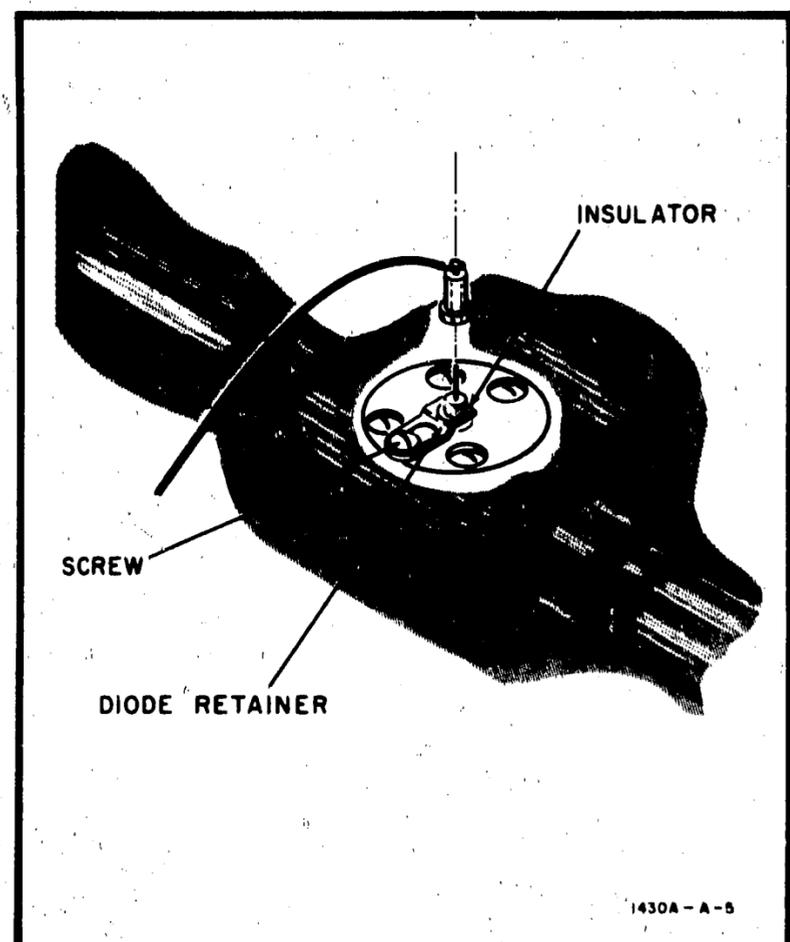

Figure 8-2. Diode Removal
- a. Loosen the screw and slide the diode retainer away from the insulator as shown in Figure 8-2.